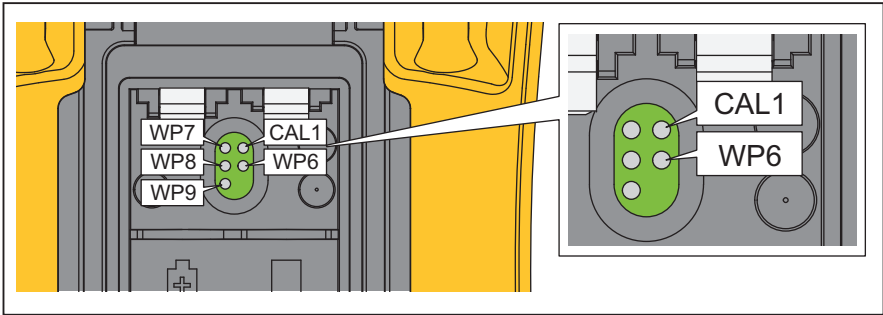

Figure 7. Calibration Adjustment 18B+
4. To put the UUT in calibration mode, use a small probe to push the calibration button (CAL1) See Figure 5 for 15B+ and 17B+ and Figure 7 for 18B+.
- 2. On the PCB, short CAL1 and WP6 together. See Figure 7.